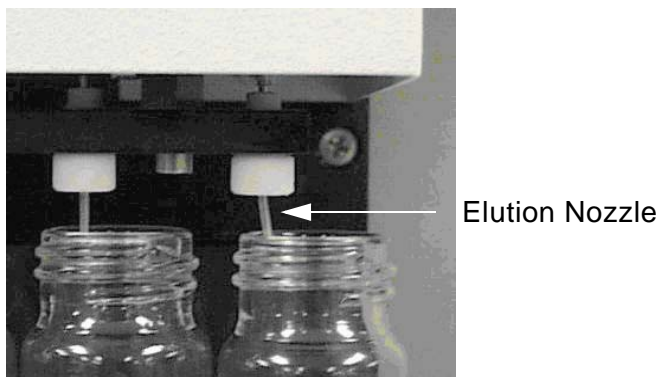

Figure 5-21. Example of Properly Aligned Elution Nozzle
5. If a nozzle contacts the side of the vial, use a small pair of pliers to adjust the nozzle toward the center of the vial. Figure 5-21 shows an example of a nozzle that is aligned.